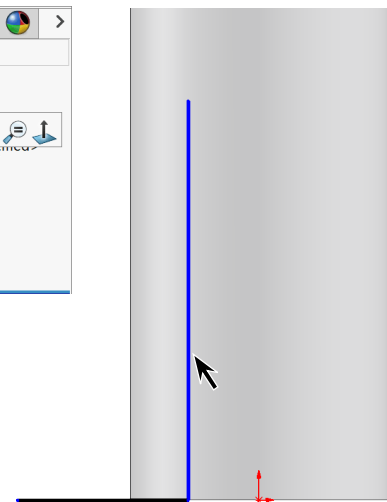

Fig. 18
Step 3. Click **Line**  (L) on the Sketch toolbar.
Step 4. Sketch **vertical line down along left edge of tube to coincident with bottom edge and a horizontal line across to left**, **Fig. 18**.